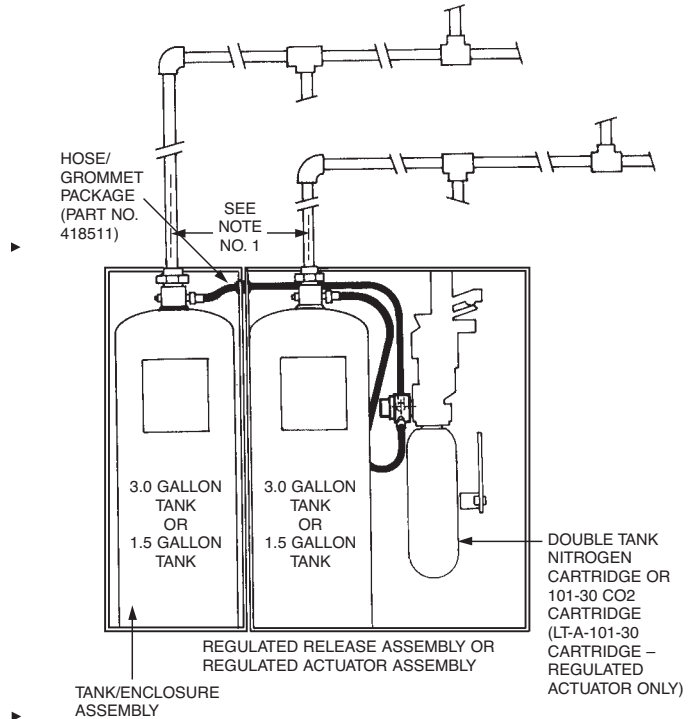

FIGURE 96
Independent pipe runs can also be used with the regulated release assembly and the tank/enclosure assembly. See Figure 96. When manifolding is not used, each of the two (2) 3 gallon tanks utilize the piping limitations of a single tank system.